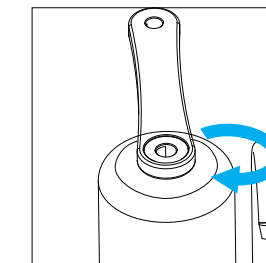

Figure 1.1
- 3 Tighten the filter housing (A) with a wrench (F). [Figure 1.1]